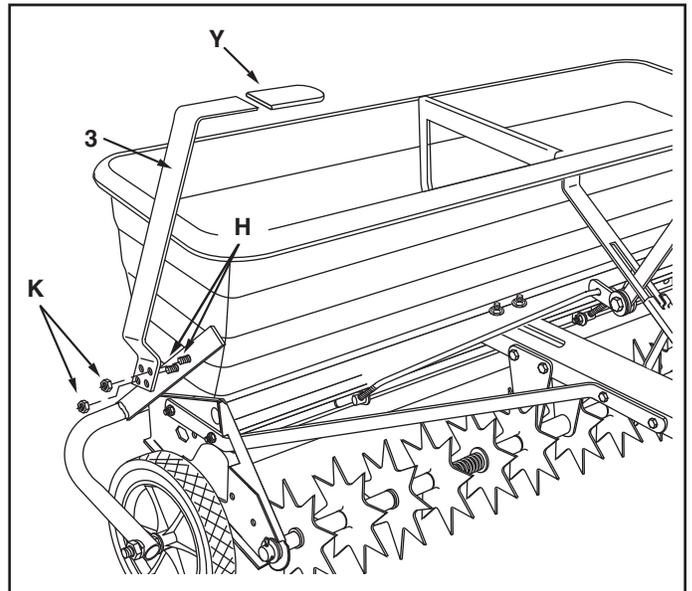

FIGURE 27
43. Attach the transport handle (3) to the lift assembly arm using the two pre-assembled 5/16" x 1" carriage bolts and 5/16" nylock nuts (K). See figure 27.
44. Assemble the handle grip (Y) to the transport handle (3). See figure 27.